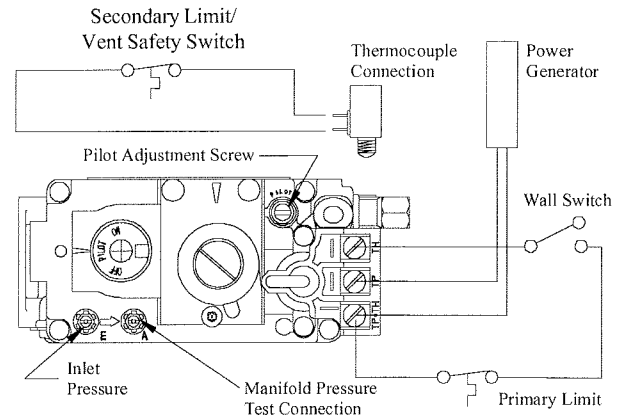

Figure 10. Sit Nova 820 gas valve.
1. Locate Pilot Adjustment Screw. (See figure 10.)
Pilot won't ignite	Disconnect remote wires and try to light pilot. If pilot now works, remote connections are faulty. Check wiring diagram figure 10 .
Main burner will not light	<ol style="list-style-type: none"> 1. Check wiring (see figure 10) 2. Check wall switch for proper connection. 3. Check pilot burner. If extinguished: <ol style="list-style-type: none"> a. Allow fireplace to cool, then try to relight. b. If condition persists, call a qualified service person.